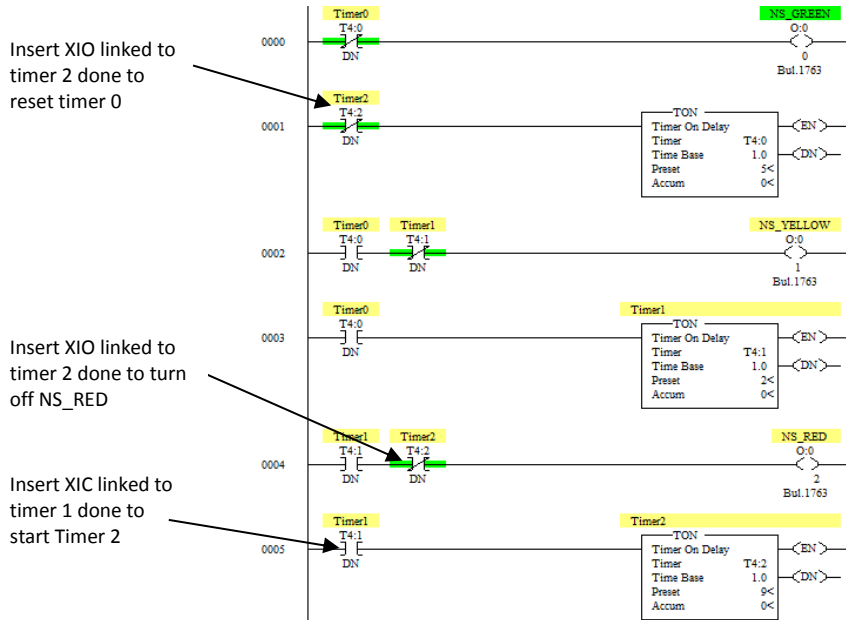

Figure 9: Timer 2 should turn off the NS_RED and reset the Timer 0
17. Timer 2 should turn off the NS_RED and Turn on the NS_GREEN after 9 seconds. In order to turn NS_GREEN, all we need to do is reset timer 0, which will close the rung connected to NS_GREEN. Resetting timer 0 in rung 1 opens the contact in rung 3 and resets timer 1 which in turn will reset timer 2. So the logic repeats itself. Complete your ladder logic as shown in figure 9.